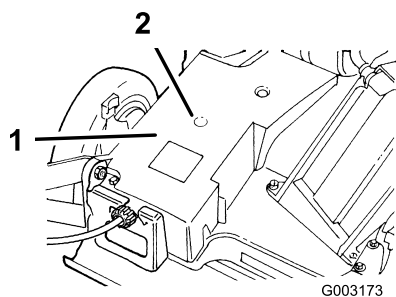

Figure 29
2. Install a grease gun onto the fitting through the belt cover opening (Figure 29).